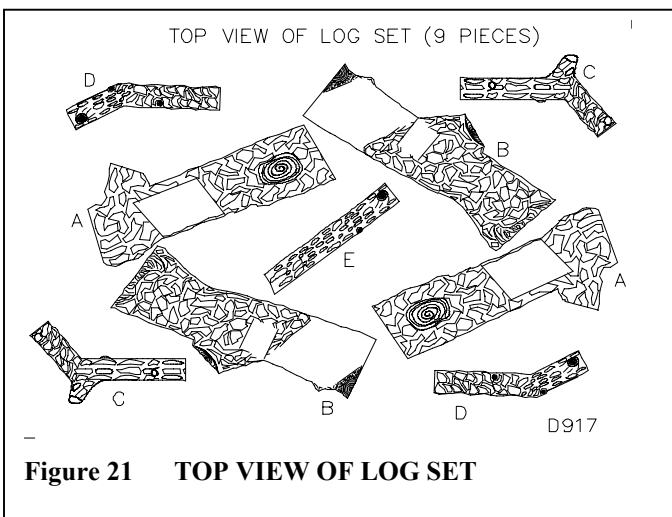

Figure 21 TOP VIEW OF LOG SET
6. Figure 21 shows the log set. Logs “A” have the knot at the end of the log. Logs “B” have the knot at the middle of the log. Twigs “C” have the shape of a “Y”. Twigs “D” have the shape of bent twigs. Twig “E” is a straight twig, which is placed across the top of Logs “B”.